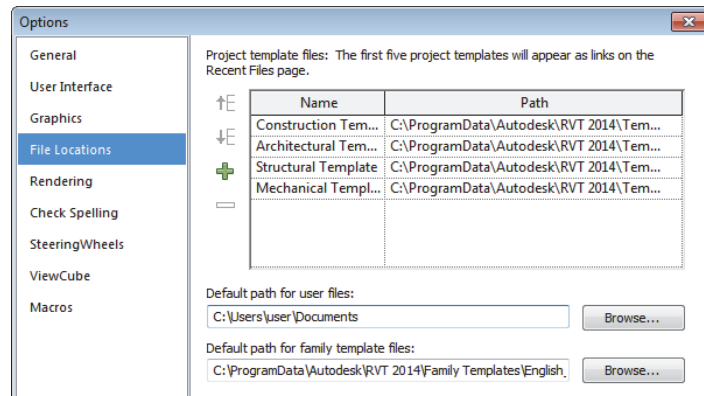

Figure 1–44
- When you save a title block, it should be on the network where everyone has access to it. That way, it is not deleted if someone reinstalls the Autodesk Revit software. Set the default location for the family template files in the Options dialog box, in the *File Locations* tab, as shown in Figure 1–44.